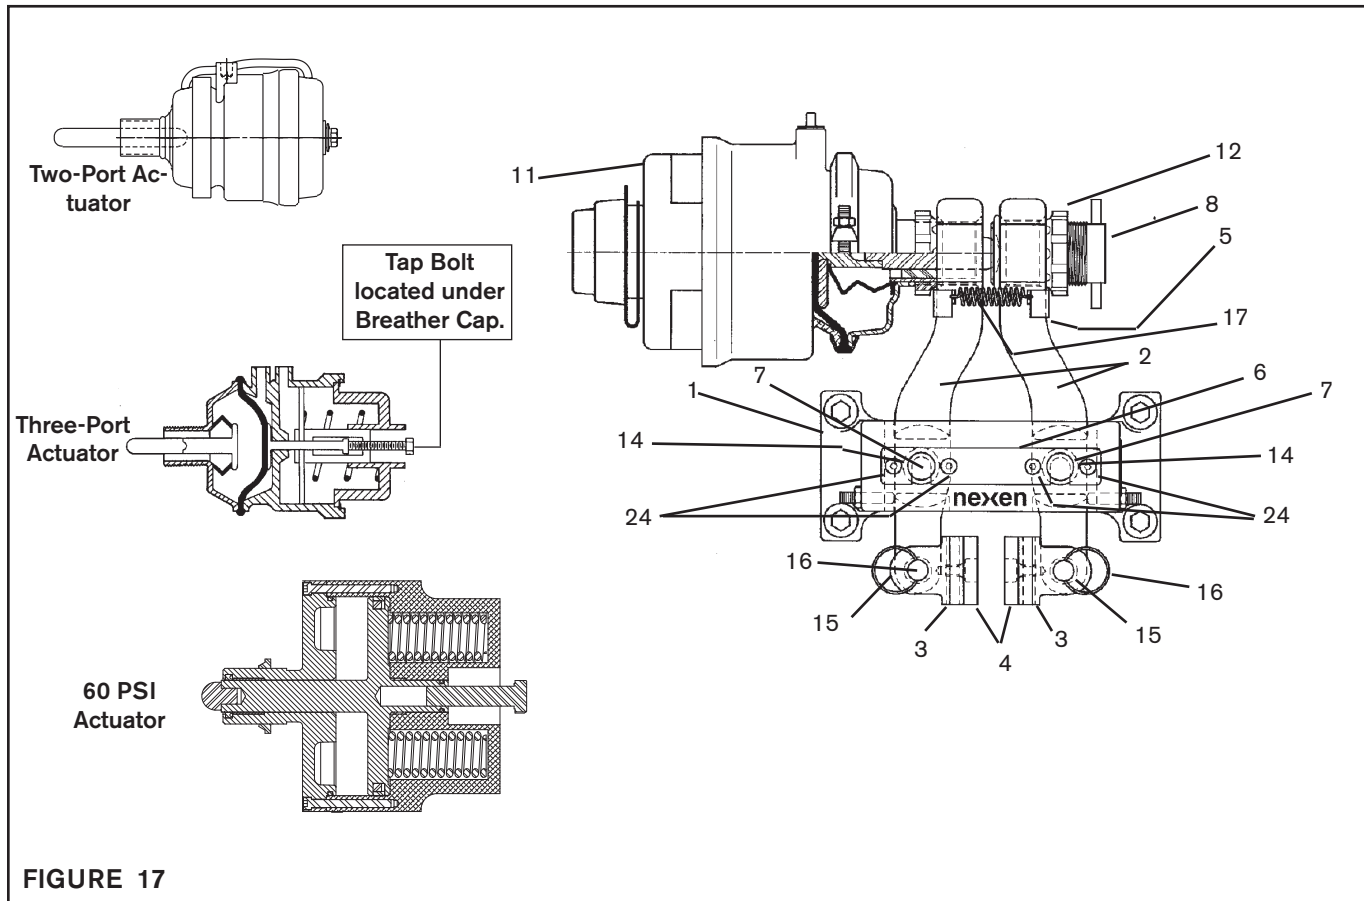

FIGURE 17
3. Open the Arms (Item 2) at the actuator end and replace the Piston Rod (Item 10) (See Figure 17).
Hold-off air pressure can be removed at this time, and service performed (See Figure 17).
1. Loosen the Spanner Nut (Item 12) (See Figure 17).
3. Remove the Actuator (Item 11) from the other Arm (Item 2) (See Figure 17).
4. Remove the Return Springs (Item 17) and Spring Retainers (Item 5) from the Arms (Item 2) (See Figure 17).
5. Remove the Shoe Pins (Item 16) from the Arms (Item 2), Friction Facings (Item 4), and Shoes (Item 3) (See Figure 17).
6. Slide the Friction Facings (Item 4) and Shoes (Item 3) off of the Arms (Item 2) (See Figure 17).
7. Remove the four Cap Screws (Item 24) securing the Pivot Pin Retainer Plate (Item 6) (See Figure 17).
8. Remove the Pivot Pin Retainer Plate (Item 6) (See Figure 17).
9. Press the Pivot Pins (Item 7) out of the BD Caliper Brake (See Figure 17).
10. Slide Arms (Item 2) out of Main Frame (Item 1) (See Figure 17).
11. Press the damaged Bearings (Item 14) out of the Main Frame (Item 1) (See Figure 17).
12. Press new Bearings (Item 14) into the Main Frame (Item 1) (See Figure 17).
13. Press the damaged Bearings (Item 15) out of the Shoes (Item 3) (See Figure 17).
14. Press new Bearings (Item 15) into Shoes (Item 3) (Figure 17).
15. Slide the Arms (Item 2) back into the Main Frame (Item 1) (See Figure 17).
16. Ream the new Bearings (Items 14 and 15) to fit the Pivot Pins (Item 7) (See Figure 17).
17. Reinstall the Pivot Pins (Item 7) (See Figure 17).
18. Reinstall the Pivot Pin Retainer Plate (Item 6) (See Figure 17).
19. Reinstall the four Cap Screws (Item 24) to secure Pivot Pin Retainer Plate (Item 6) (See Figure 17).
21. Slide the Friction Facings (Item 4) and Shoes (Item 3) onto the Arms (Item 2) (See Figure 17).
22. Reinstall the Shoe Pins (Item 16) (See Figure 17).
23. Reinstall the Spring Retainers (Item 5) and Return Springs (Item 17) onto the Arms (Item 2) (See Figure 17).
24. Screw the Actuator (Item 11) back onto the Arm (Item 2) (See Figure 17).
25. Screw the Adjustment Screw (Item 8) and the Spanner Nut (Item 12) onto the other Arm (Item 2) (See Figure 17).